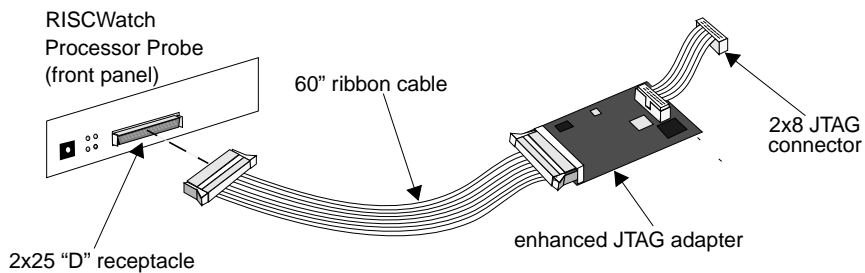

Figure 3-3. Enhanced RISCWatch Adapter Assembly
- 6. If your adapter assembly resembles Figure 3-3, you have an enhanced JTAG adapter assembly. To assemble the adapter assembly and cables, perform the following steps: